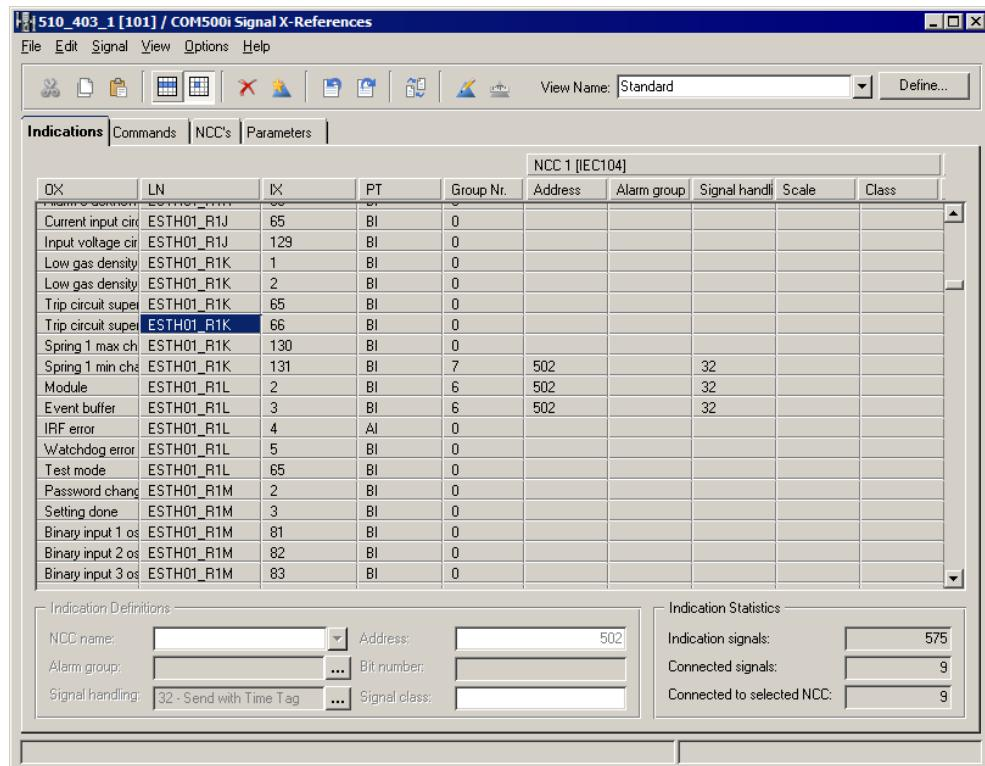

Figure 34: Group interrogation number for IEC 60870-5-101/104
Interrogation group number (integer 1...16) or counter interrogation group number (integer 1...4) is added to the Free Integer (FI) attribute of the cross-reference process object. By default, the value of the FI attribute is 0. A signal specific group number is defined to Signal X-References as follows (See Figure 34):